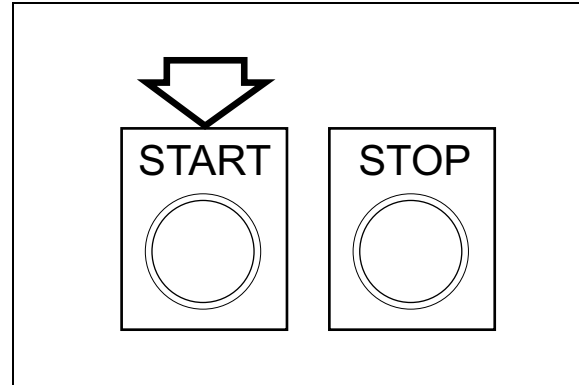

Figure 4-5: Start Push-button
5. Press the START push-button (Figure 4-5). The START push-button lights indicating that all safeties and power are ready. If it fails to light, then check: